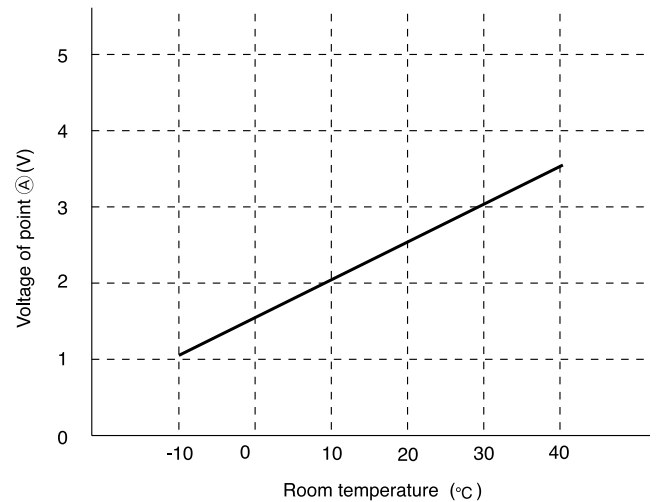

Fig. 4-2
- (1) Preheating
- (2) Low-temperature defrosts at cooling-dehumidification operation time.
- (3) Not working of reversing valve or detection of opening of heat exchange thermistor is controlled.
According to heat exchange temperature, the voltage of point (A) becomes as it is shown in Fig. 4-2.